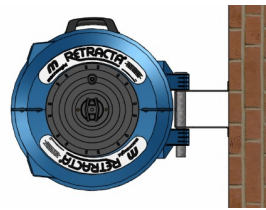
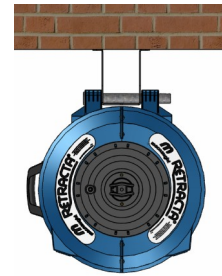

Fig. 1 BU100 - Wall
Fig. 2 BU100 - Overhead
B) The BU100 mounting bracket (supplied) is suitable for installing the reel up to 1.8mtrs high on a wall or up to 4.5mtrs overhead (see Figures 1 and 2). This bracket allows the reel to swivel in the direction of use. To prevent the reel from swiveling in the overhead position (figure 2) only install the locking bracket RB9 (supplied).